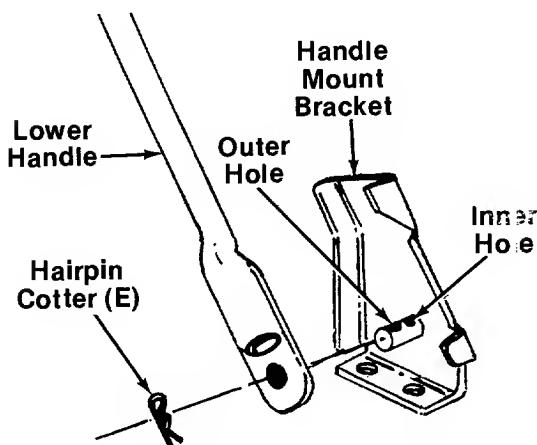

FIGURE 2.
- A (1) Cable Bracket
- B (2) Curved Carriage Bolts 5/16-18 x 1.38" Long
- C (2) Lock Washers 5/16" I.D.
- D (2) Hex Nuts 5/16-18 Thread
- E (2) Hairpin Cotter
- F (2) Cable Ties
- G (4) Hub Caps (Optional—Not Shown)
3. Place lower handle in position over weld pins in handle mount brackets on deck. Make certain the instruction label on the lower handle can be read from the operating position. Secure by placing hairpin cotter (E) in inner hole on weld pins. See figure 2.